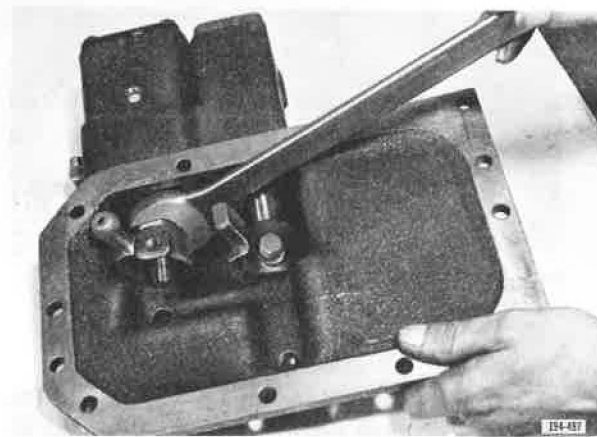

Figure 5-557. Tightening Nut
8. Lock Lo/Direct shifter in neutral position by tightening the locknut. See Figure 5-557.